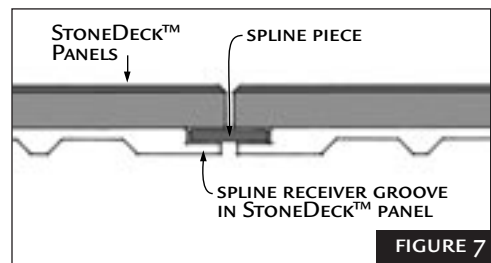
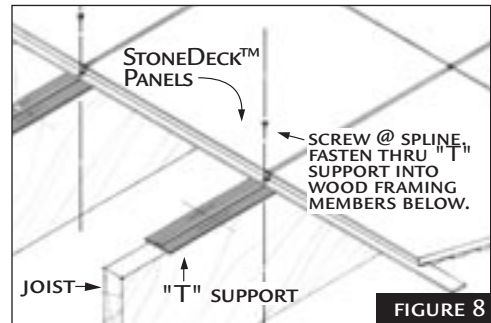

FIGURE 7
FIGURE 8
The spline element is used to interlock all panels to adjoining panels by fitting in the manufactured groove on (2) sides of each panel (Figure 7). The entire connection matrix is locked to the wood joists structure by fastening the “spline” through the center of the “T” Support using the pre-drilled countersunk hole in the spline (Figure 8).
Once a row of panels is in place, you can now set the “spline” into the receiving channel on the open side of the panels. Using a rubber mallet, lightly tap the spline into the grooves for its entire length (8’-0”), keeping in mind to center the counter sunk holes in the spline piece to a position directly over the center of the “T” Support (Figure 8). Once the spline has reached the back of the groove, you are now ready to fasten it in place. Fasten with #6 x 1-1/2” self tapping exterior grade screws. With this completed, continue setting rows of panels and locking them in place with the “spline” elements. Remember to use the spacer elements to maintain the 1/8” gap. Leave end cutting situations for later, once the general deck field of panels has been placed and locked.